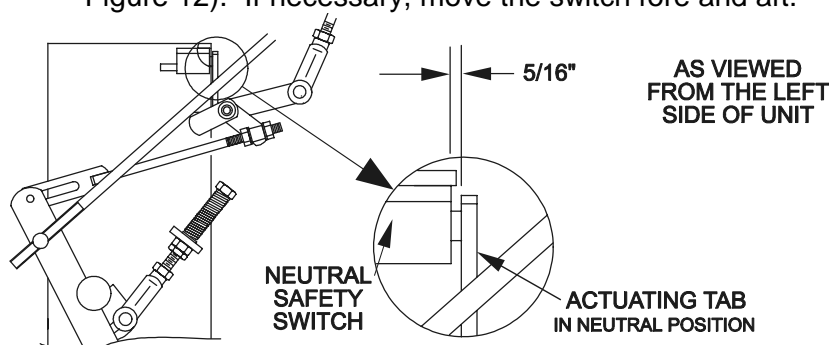

FIGURE 12
2. Move the speed control lever (located on the console) to the full forward position and check the orientation of the tabs on the ends of the speed control crank (See Figure 12). These tabs should be pointing straight down at the 6 o'clock position or slightly forward. Adjust the threaded yoke at the bottom of the speed control linkage (See Figure 12) until the tabs are positioned correctly.
3. Pull the speed control lever back to neutral. Check that the neutral safety switch actuating tab has depressed the plunger of the switch so that there is about 5/16" (.79 cm) between the tab and the switch (See Figure 12). If necessary, move the switch fore and aft.